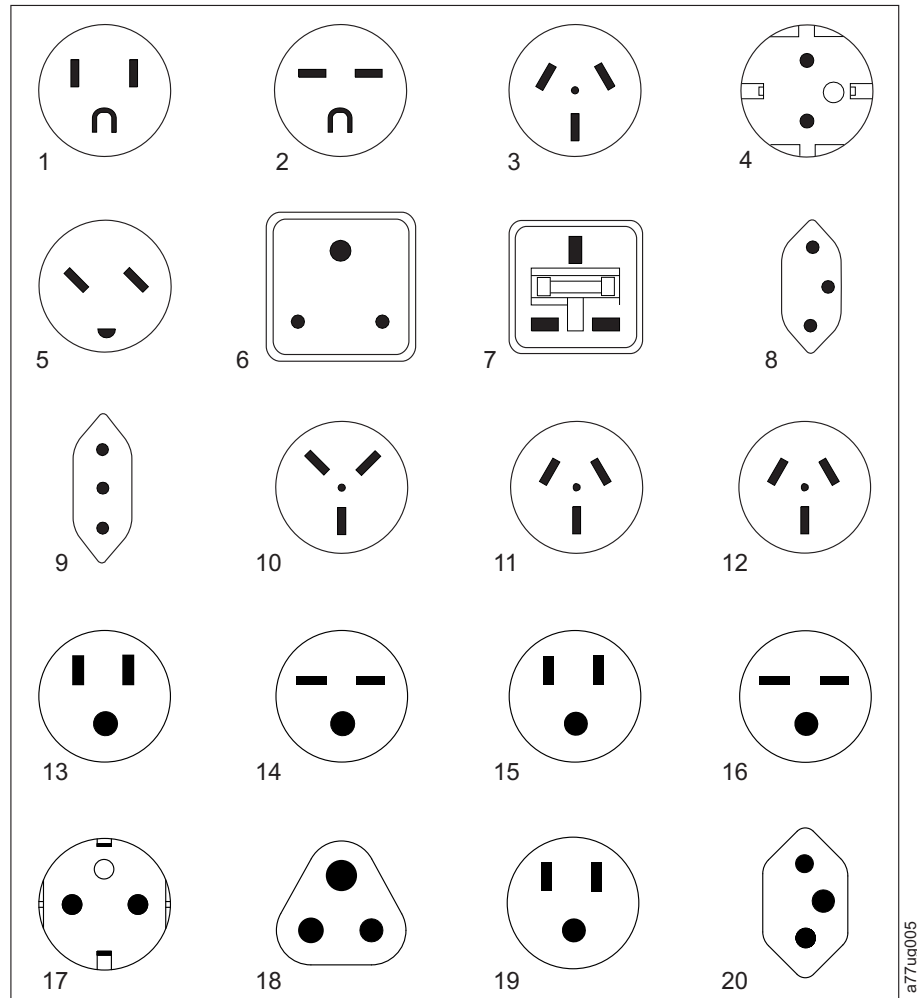

Figure C-1. Types of Receptacles
The table below lists the power cord part number, feature code, the country or region where the power cord can be used, and the plug's standard reference. The last column in the table contains an index number that you can match to a specific receptacle type in Figure C-1 on page C-4.
| Description, Feature Code (FC), and Part Number (PN) | Plug Standard Reference | Country or Region | Index Number in Figure C-1 on page C-4 |